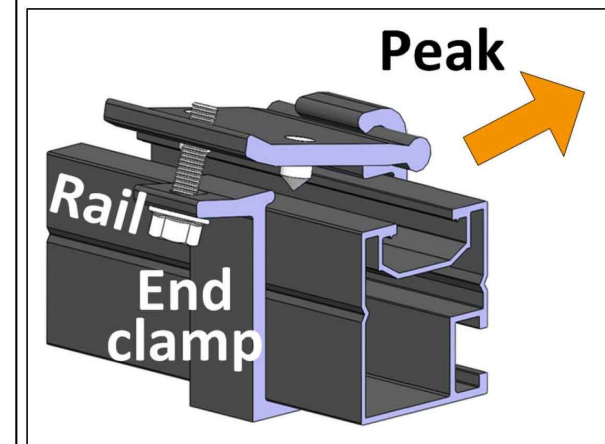

Fig. 21
- Slide an end clamp over the same end of each of the row's two rails, such that the clamp opens away from the roof peak (Fig. 21). Position the clamp near the end of the rail.